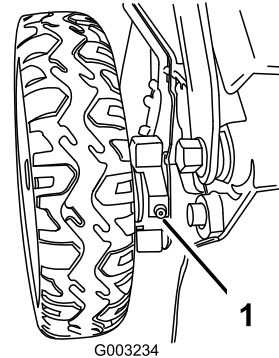

Figure 27
1. Wipe the grease fittings just inside the rear wheels with a clean rag (Figure 27).